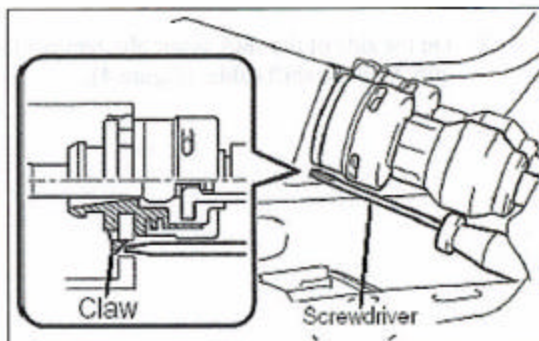

Figure 7
11. Insert a screwdriver in the slot below the shift cable to release the claw (Figure 7).